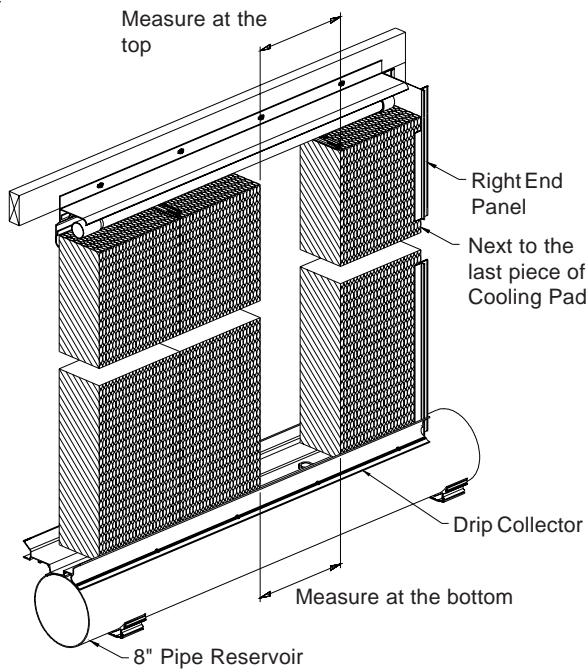

Figure 16
21) Slide the next to the last piece of pad into the end panel. Measure the opening that is left for the last piece of pad at the top and bottom of the opening. If the opening is smaller than the width of the last piece of pad, then using a hand saw, trim the last piece of cooling pad to fit the opening. Put the last piece in place. **See Figure 16.**